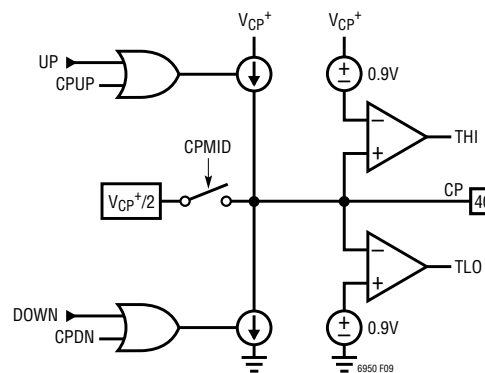

Figure 9. Simplified Charge Pump Schematic
The charge pump, controlled by the PFD, forces sink (DOWN) or source (UP) current pulses onto the CP pin, which should be connected to an appropriate loop filter. See Figure 9 for a simplified schematic of the charge pump.
The CPCHI and CPCLO bits found in register h06 enable the high and low voltage clamps, respectively. When CPCHI is enabled and the CP pin voltage exceeds approximately $V_{CP^+} - 0.9V$, the THI status flag is set, and the charge pump sourcing current is disabled. Alternatively, when CPCLO is enabled and the CP pin voltage is less than 0.9V, the TLO status flag is set, and the charge pump sinking current is disabled (see Figure 9).